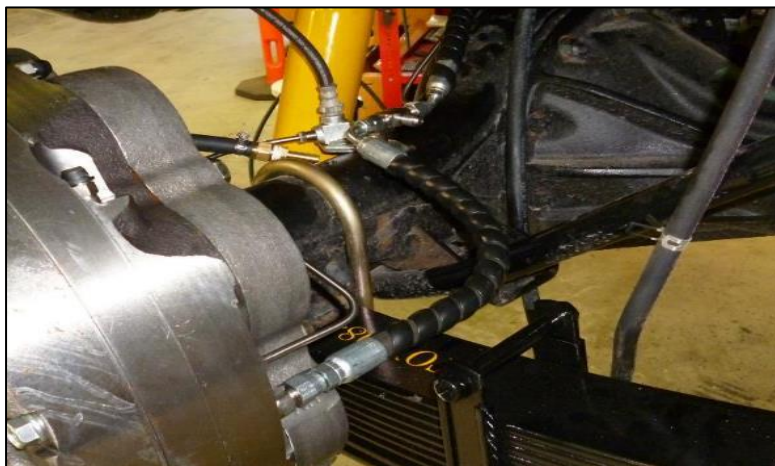

Fig. 46 Brake lines routed on to RH brake unit
5. Fit the RH park/emergency brake hydraulic hose. See Fig. 46